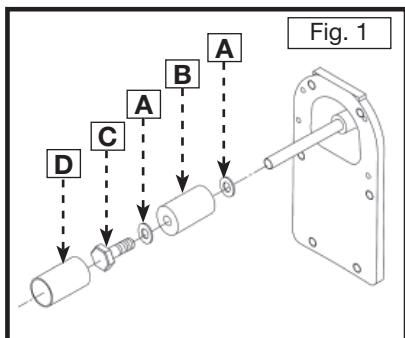

Fig. 1
**Note:** When installing a 1/2" sanding sleeve on the shaft, do not use the rubber drum (B) or washers (A) Fig. 1.
1. Place the washer (A) Fig. 1 on the spindle shaft.
2. Place the rubber drum (B) on the spindle shaft.
3. Place a second washer (A) over the bolt hole opening.
4. Thread a 5/16-24 locking bolt (C) on the shaft, but do not tighten.
5. Slide the sanding sleeve (D) over the rubber drum (B). Make sure that the sanding sleeve (D) is flush with the rubber drum (B).
6. Tighten the 5/16-24 locking bolt (C) on the shaft to hold the sanding sleeve (D) in place.